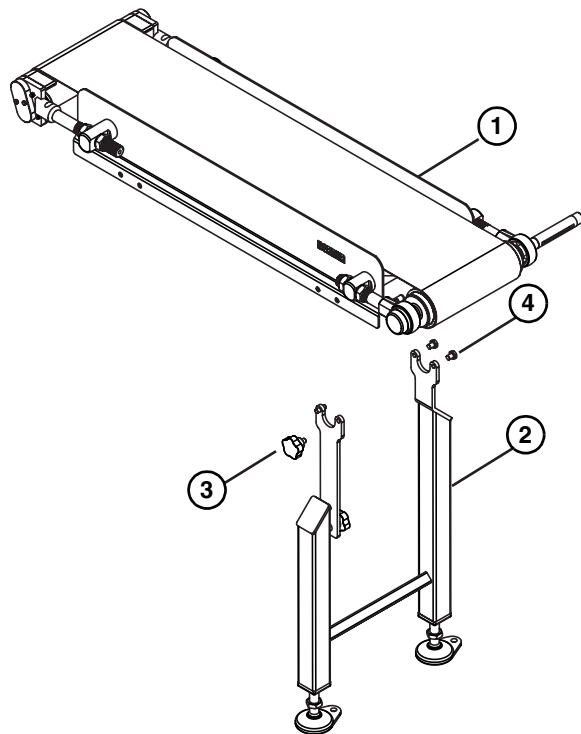

Figure 37
Typical Stand Components (Figure 37)
3. Attach the quick-release arm to the stand with the knob (**Figure 37, item 3**).